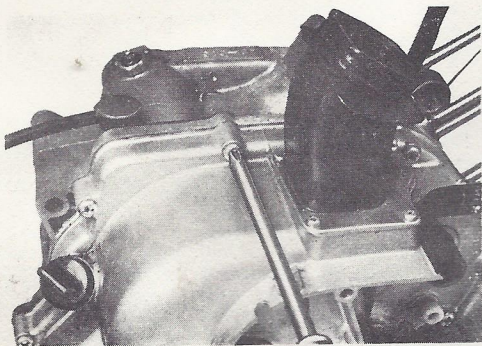

Fig. 3-7-3
- c. Remove the pan-head screws from the crankcase cover (R), and take off the cover. (Figs. 3-7-3 and 4)